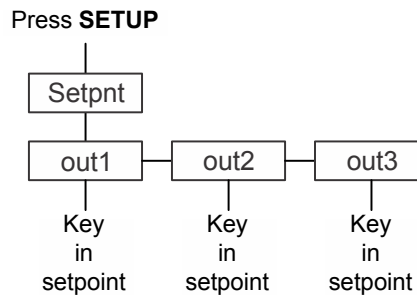

Figure 3.1 Setpoint menu
Setpoints are values (weight) at which outputs are triggered automatically. Outputs can control relays connected to valves, lights, other machinery, etc. Setpoint outputs can be configured in the setpoint menu shown in Figure 3.1.
- SEtPnt** is displayed. Refer to the Setpoint menu, shown in Figure 3.1 while following the steps below